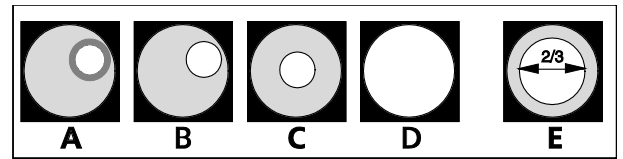

Fig. 149 Diaphragm settings in transmitted light brightfield acc. to KÖHLER
- Close the luminous-field diaphragm (Fig. 148/10) until it is visible in the field of view (not necessarily in focus) (Fig. 149/A).
- Bring the edge of the luminous-field diaphragm into focus (Fig. 149/B) by adjusting the height of the condenser (Fig. 148/13).
- Center (Fig. 149/C) the luminous-field diaphragm using the centering screws (Fig. 148/8) and open until the edge of the diaphragm just disappears from the field of view (Fig. 149/D).
- To set the aperture diaphragm, remove one eyepiece from the eyepiece tube and adjust the aperture diaphragm of the condenser to approximately 2/3 the diameter of the exit pupil of the eyepiece (Fig. 149/E).